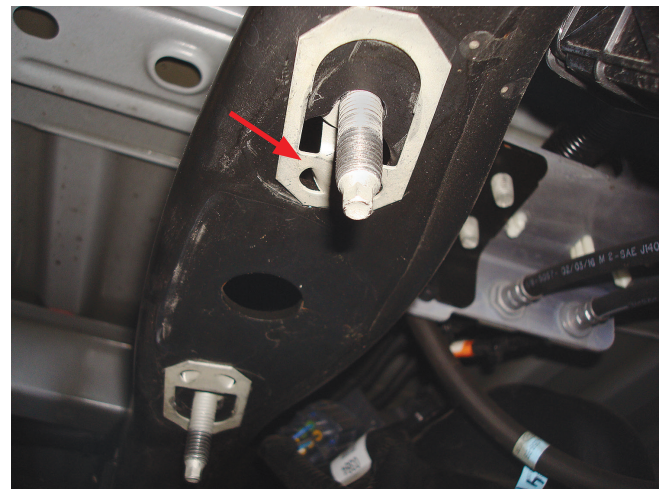

Fig. 4
3. Remove the clip-in studs by prying on the hinged end with a screwdriver. Pull all four (two from each side) out from the frame (Fig. 4).